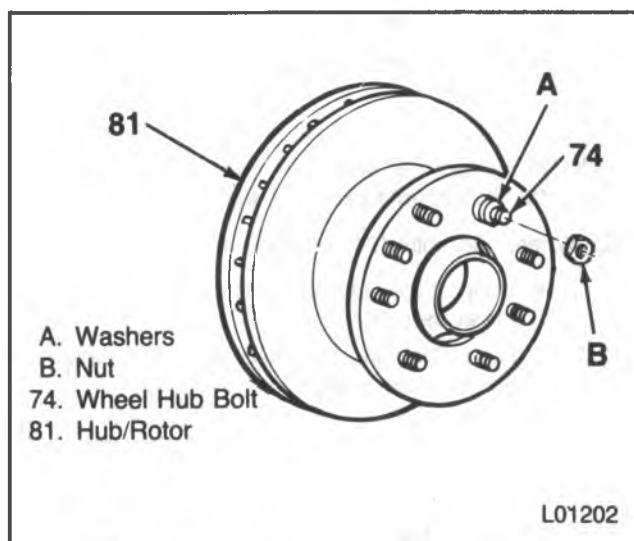

Figure 20 — Installing the Hub Bolts
Install or Connect (Figure 20)
1. Wheel hub bolts (74) into the hub/rotor (81).
- Place four washers onto the bolt, then tighten a nut onto the bolt until the bolt fully seats into the hub/rotor (81) (figure 20).